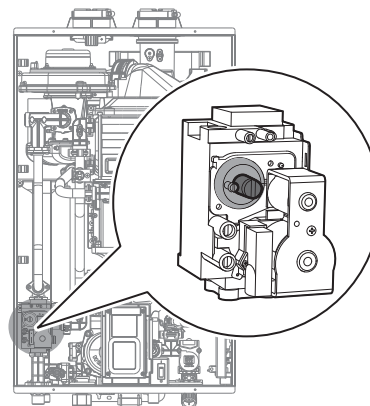

Figure 8. Set Screw Location
- Fully open several hot water fixtures and set the water heater to operate at 1-stage MIN mode (refer to page 40). Measure the CO₂ value at low fire. If the CO₂ value is not within 0.5% of the value listed in Table 2, the gas valve set screw will need to be adjusted. If adjustment is necessary, locate the set screw as shown in Figure 8. Using a $\frac{5}{32}$ in or 4 mm Allen wrench, turn the set screw no more than $\frac{1}{4}$ turn clockwise to raise or counterclockwise to lower the CO₂ value.